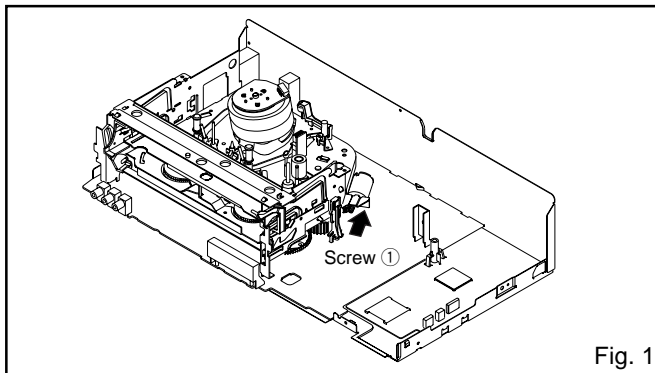

Fig. 1
1. Remove the Top Cabinet and Front Cabinet. **(Refer to item 1 of the DISASSEMBLY INSTRUCTIONS.)**
2. Slide the Rack Loading (White) toward the arrow direction by using a minus driver to release the lock. **(Refer to Fig. 1)**